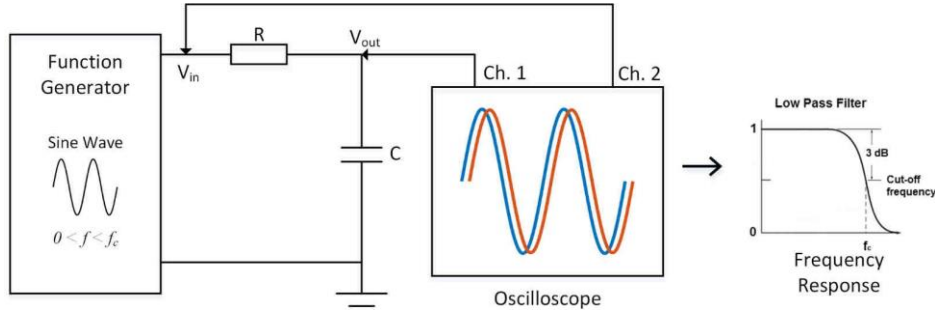

Figure 6: Measurement System Schematic.
The measurement arrangement is shown in Figure 6. This is a half bridge configuration consisting of the resistor  $R$  and the unknown capacitor  $C$ . The method is based on finding the cutoff frequency of a RC filter. The cut-off frequency is the frequency at which the output power is halved and is indicated by the power level of  $-3$  dB. A sample frequency characteristic of a RC filter is also given in Figure 6. Use the sine wave in the function generator and keep the frequency lower than the cut-off frequency. In this case, you will see successive sine waves in the channels of the oscilloscope as seen in Figure 6. In order to determine unknown capacitor value, you must increase the frequency until it catches the cutoff frequency of RC filter. The amplitudes of the measuring voltages should change as the frequency increases and should be zero for higher frequencies than cut-off frequency of the low-pass filter. When you reach the cutoff frequency, the ratio between the voltage values should be 0.707 as given in equation (3). You should observe this situation by changing the frequency of the sine wave in the function generator.